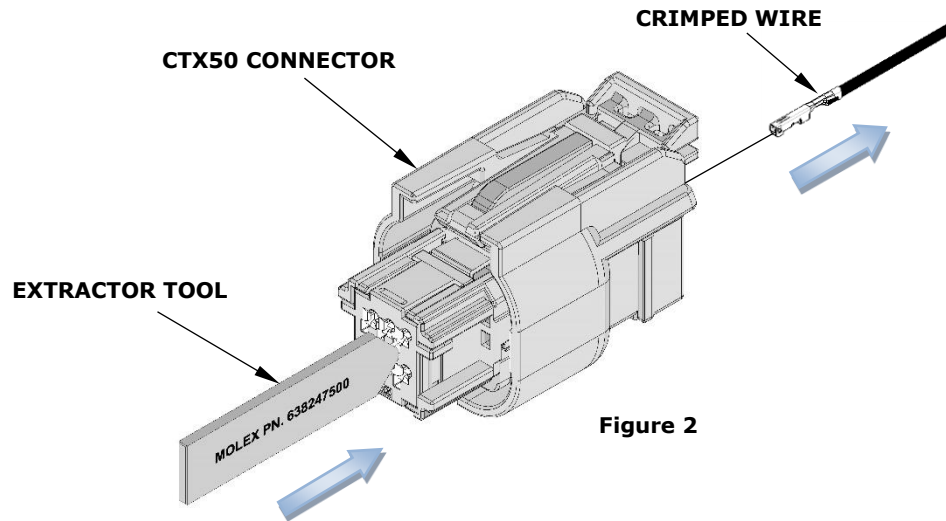

Figure 2
5. Holding the extraction tool against the housing, gently pull the crimped wire out of the connector. See Figure 2.